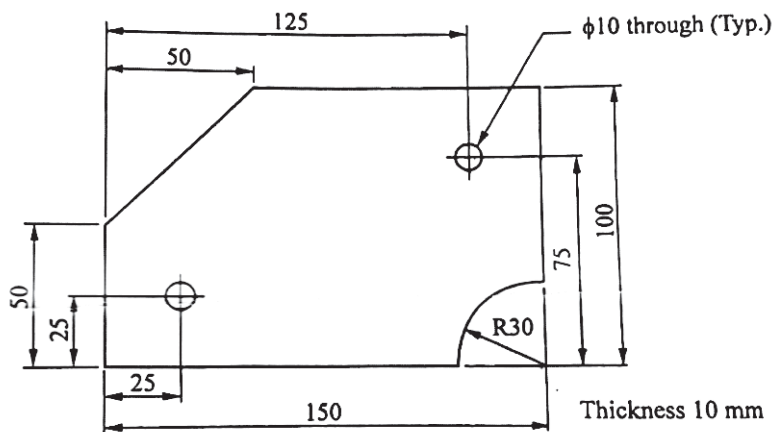

fig. 3a
**Q3)** a) Write a manual part program for the component shown in fig. 3a. Assume the raw product as cast iron and the machining is to achieve the various dimensions. [12]